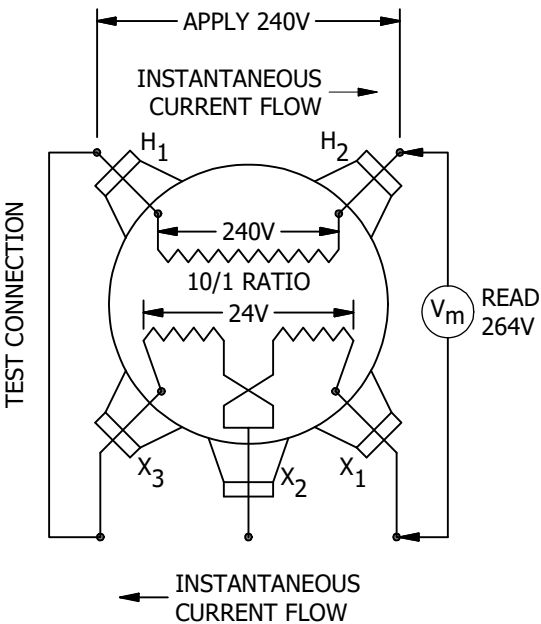

FIGURE 1
- THE POLARITY IS ADDITIVE IF THE VOLTAGE ACROSS THE OTHER TWO LEADS OF THE WINDINGS IN QUESTION IS GREATER THAN THAT OF THE HIGH-VOLTAGE WINDING ALONE (FIGURE 1).